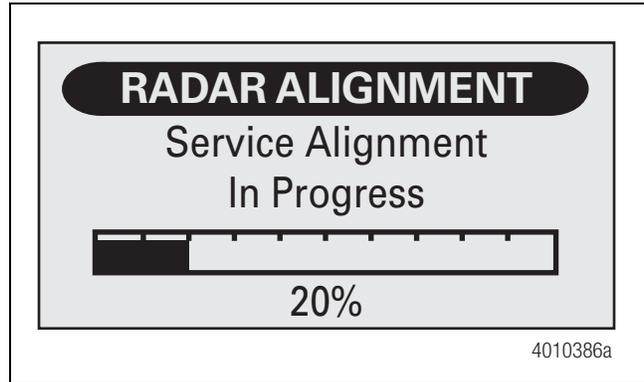

Figure 12
2. Drive the vehicle on a straight road above 30 mph (48 kph). The road should have telephone poles, signposts and other non-moving objects along the roadside. There must also be other traffic on the road, either on coming or lead vehicles at distances greater than 150 ft. Stopping the vehicle while traveling in traffic is acceptable but will increase the time needed to complete the alignment procedure. While in radar alignment mode, the OnGuard™ display will show the progress of the alignment process as shown in Figure 12.